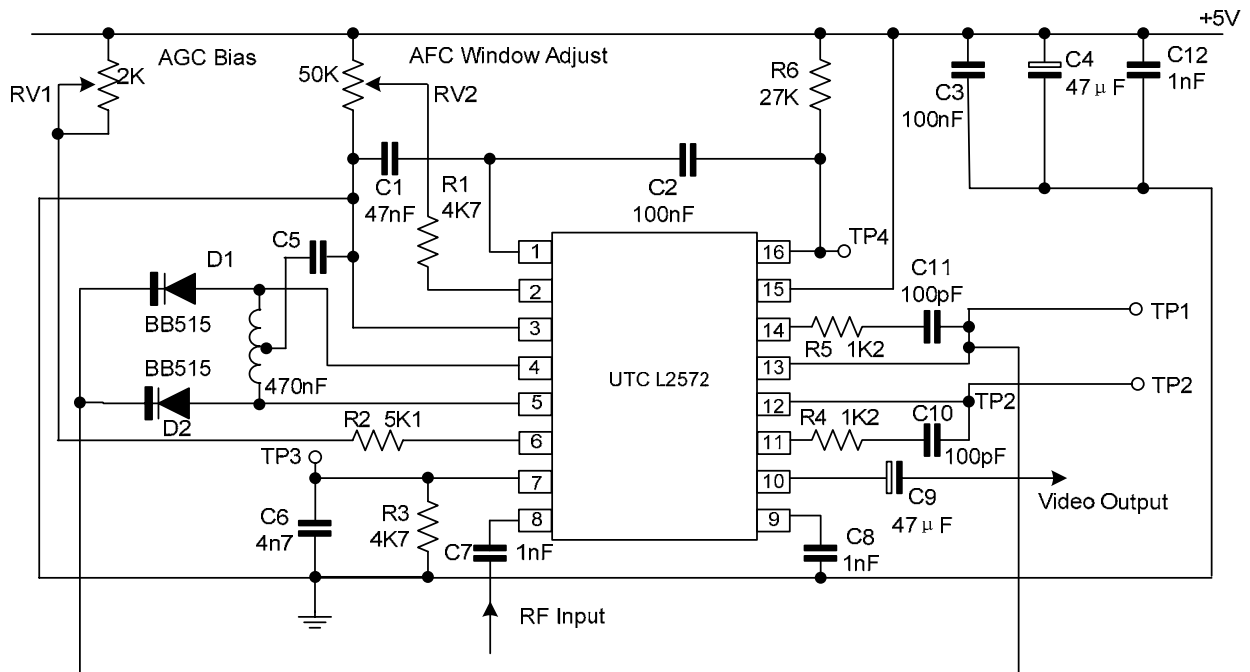
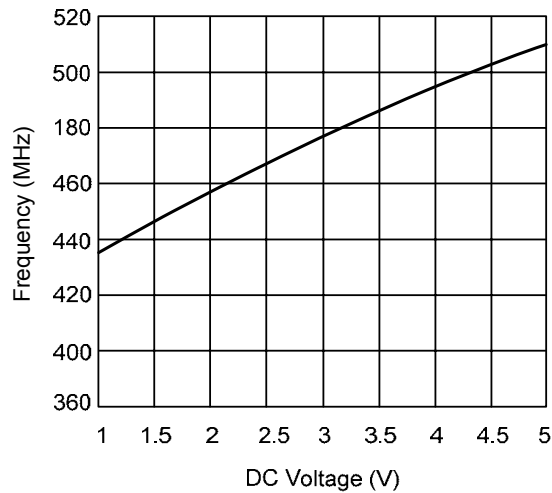
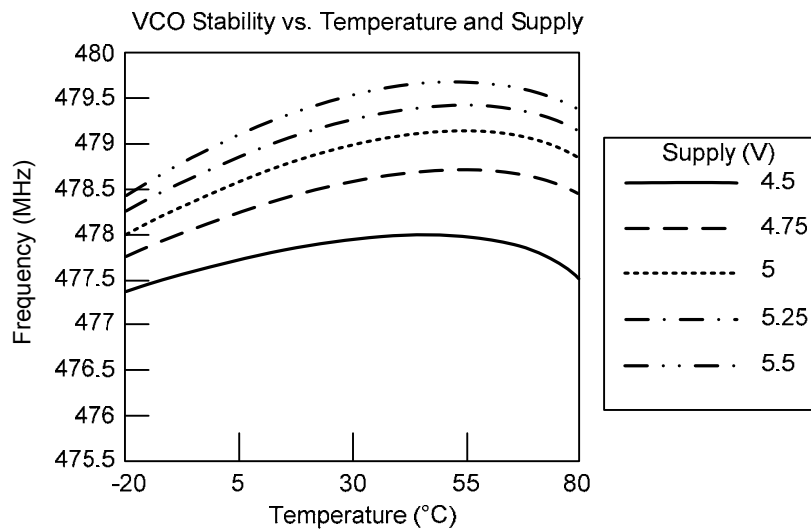

Fig. 1 Application Circuit
Fig. 3 Typical VCO Frequency vs. DC Control Voltage
Fig. 4 VCO Centre Frequency Uncompensated Temperature Stability
- Assuming ambient temperature of +20°C and operating frequency of 479.5MHz set with V_{CC} @ 5.0V. Only applies to application shown in Fig. 1 also refer to Fig. 4.
The UTC L2572 as optimized for application in satellite receiver systems and requiring a minimum external component count is a wideband PLL FM demodulator. It includes all the elements required to construct a phase locked loop circuit, with the exception of an AFC detector circuit for generation of error signal to correct for any frequency drift in the outdoor unit local oscillator, and tuning components for the local oscillator contains a block diagram and Fig. 1 contains the typical application.
The preamplifier's output is fed to the mixer section which is of balanced design for low radiation. In this stage the RF signal is mixed with which is generated by an on-board oscillator, the local oscillator frequency. The oscillator block is optimized for high linearity over the normal deviation range and uses an external varactor tuned sustaining network. Fig. 3 contains a typical frequency versus voltage characteristic for the oscillator. Fig.4 shows the typical stability that the loop output is designed to compensate for first order temperature variation effects.